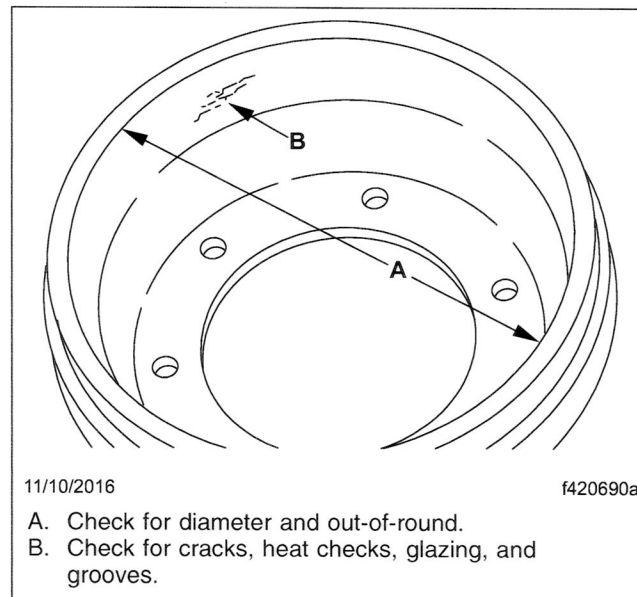

Fig. 2, Brake Drum Inspection
6. Inspect the brake drum, as follows. See **Fig. 2**.